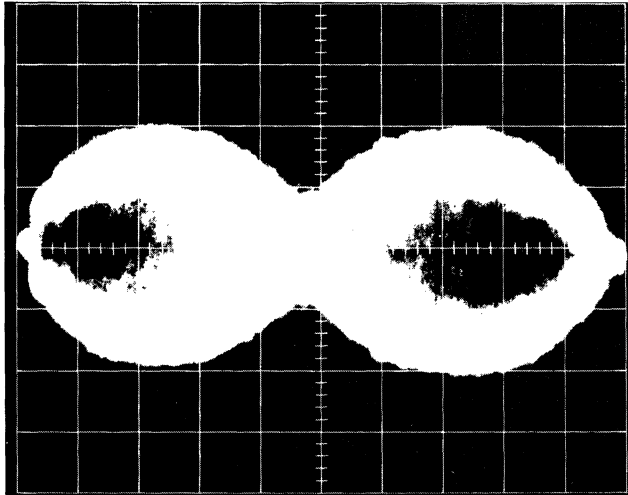

Figure 5-3. Radial Head Alignment Waveform
h. With the scope connected, the pattern shown in section V (see fig. 5-3) should be observed.
- k. After the radial alignment has been completed, re-tighten the three screws loosened in step j while observing the scope pattern (see fig. 5-3). Tighten the retaining screws with the torque-driver set at 8 inch pounds.